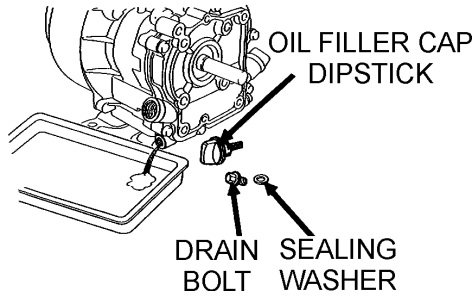

Figure 48. Draining Engine Oil
1. Drain the engine oil when the oil is warm as shown in Figure 48.